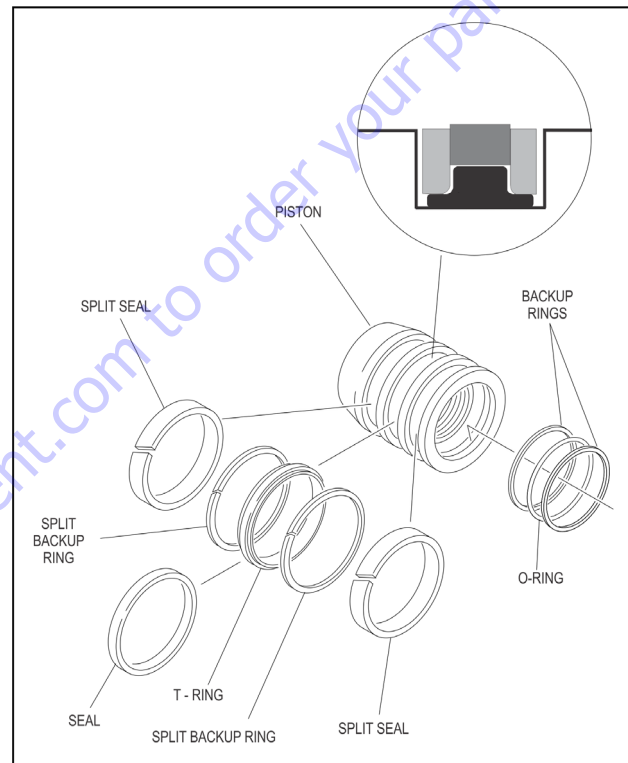

Figure 5-36. Piston Seal Kit Installation
NOTE: The backup rings for the solid seal have a radius on one side. This side faces the solid seal. (See magnified insert in Figure 5-36.) The split of seals and backup rings are to be positioned so as not to be in alignment with each other.
16. Place new guide locks and seals in the applicable outside diameter grooves of the cylinder piston. (See Figure 5-36., Piston Seal Kit Installation)